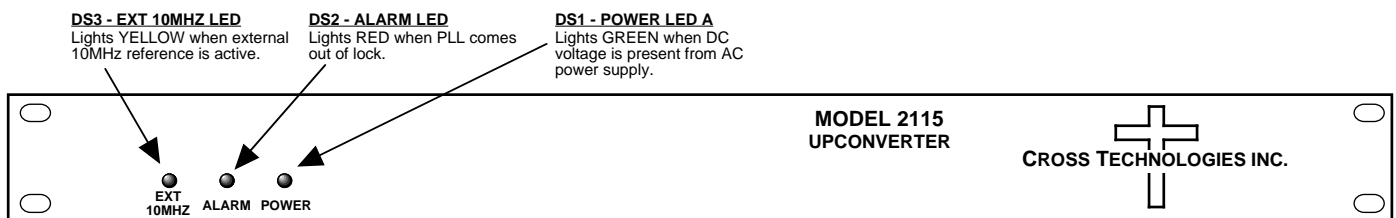

FIGURE 2.2 2115-202 Front Panel Controls and Indicators
5. Be sure DS1 (green, DC Power) is on and DS2 (red, Alarm) is off (Figure 2.2).
7. If EXT is selected or AUTO is selected and there is a 10MHz, 3 dBm signal at J2, check that DS3 (yellow, Ext 10MHZ) is on (Figure 2.2).